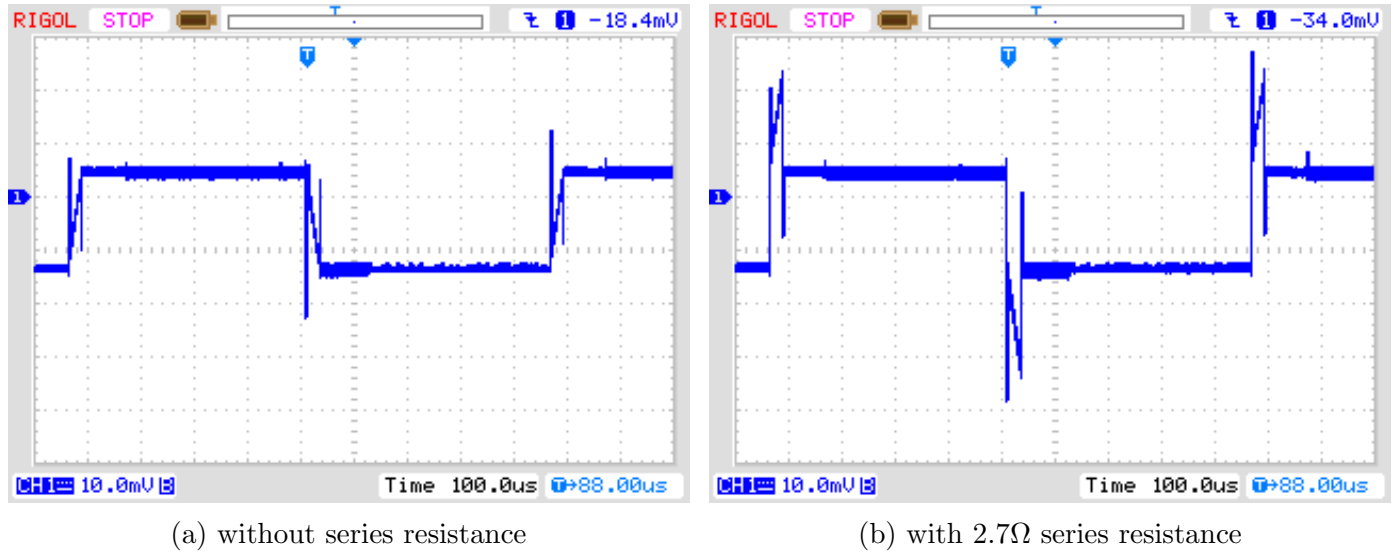

Figure 5.36. Voltage curve of a $10\mu F$ capacitor during new ESR measurement
Due to the shorter load puls not only the ESR of capacitors with lower capacity can be measured, but this way of measurement can also be used for the measurement of resistors with little resistance, if they don't have a detectable inductance. By doing that, a resolution of 0.01Ω for this resistors can be achieved. Also the zero resistance can be detected by the calibration part of the selftest for all three test pin combination. You should keep in mind, that stable plug sockets or clamping connectors are essential for stable results. The measurement periode is about $900\mu s$, which results to a frequency of about $1.1kHz$. Because the load pulse is very short, the measurement result is comparable to measurements with $10kHz$. A measurement example with a $10\mu F$ foil capacitor, once measured alone and once measures with a 2.7Ω series resistor is shown in figure 5.36. You can see the effect of the additional resistance by comparing both diagrams. You can see also, why the ADC measurement (SH) should point to the middle of the load pulse. With big capacity values the load current is nearly stable during the total pulse length, so you will get the middle voltage at the middle time of the load pulse. With lower capacity values you will get a significant difference, which can be compensated by the known capacity value.